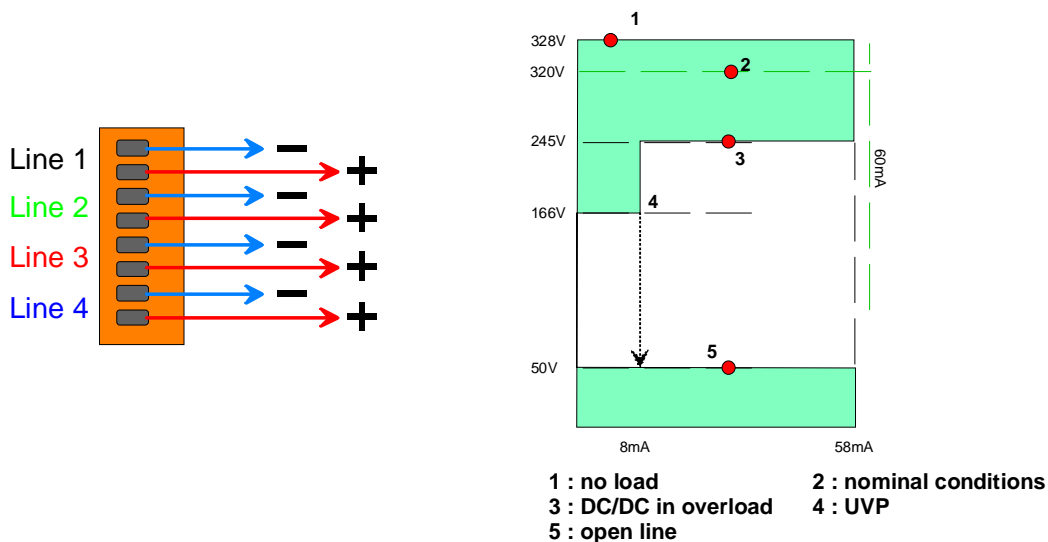

Figure 7 : Line output
* Polarity: see fig. 7
see fig. 7